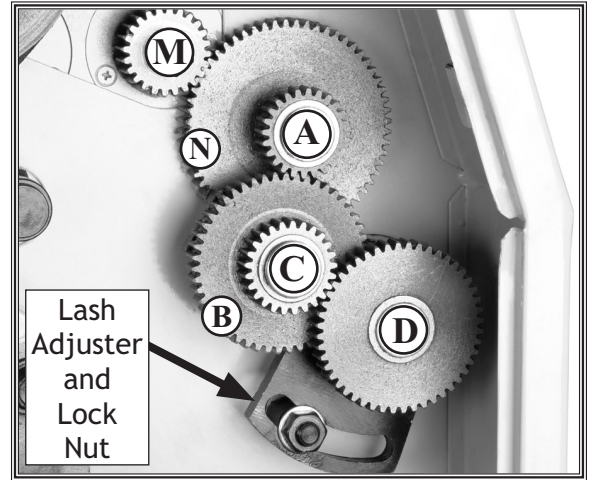

Figure 39. Change gear locations.
See **Figure 39** for the gear installation locations on the lathe that are referenced by the chart.
3. Loosen the lash adjuster (**Figure 39**) and swing the assembly out of the way.